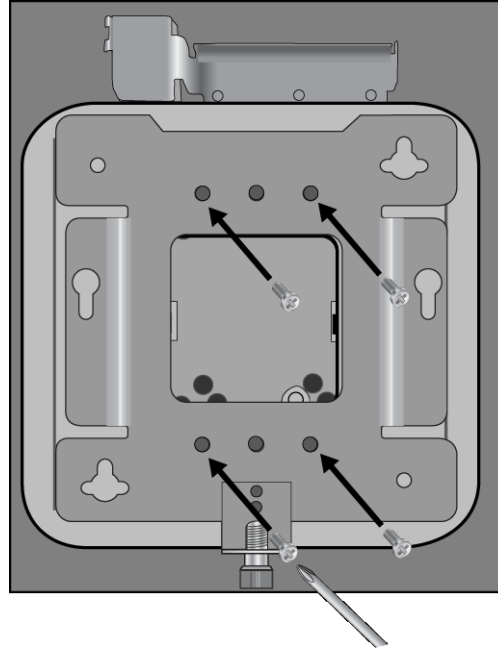

Figure 19. Securing the TQ Bracket to the Cover with Four M4x8 Screws
2. Secure the TQ bracket with the four M4x8 screws included with the BRKT-CONV-AP1 bracket. Refer to Figure 19. This step may require two people, one to hold the bracket while another secures it with the screws.